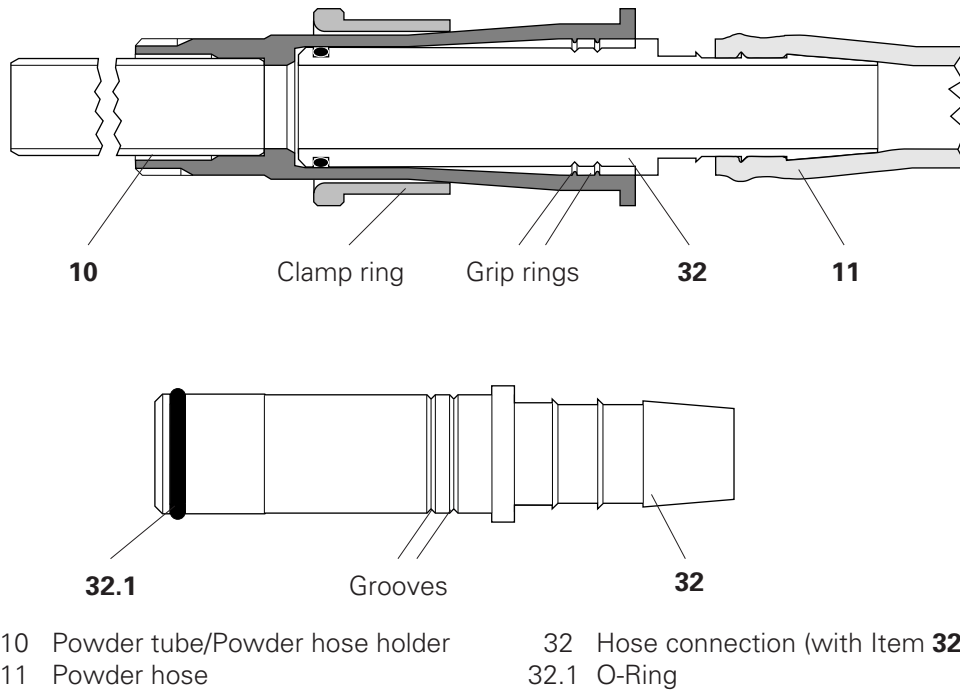

Figure 13
2. Detach the powder hose connection (**32** - Fig. 13, page 15) at the powder hose connector (**10** - Fig. 10, page 12).
Powder hose connection (See Fig. 13, page 15)